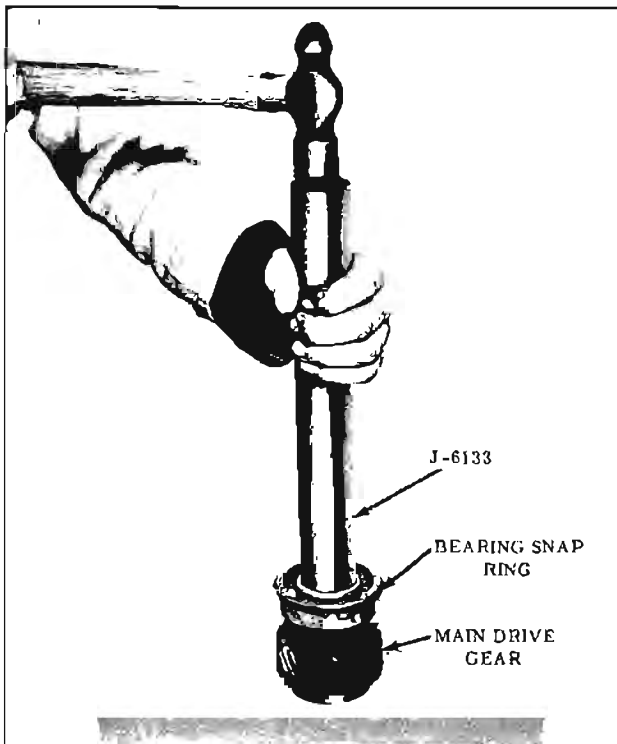

Fig. 11-228 Main Drive Gear Bearing Installation
5. Using tool J-6133 install the main drive gear bearing on the main drive gear shaft with the snap ring in the outer race of the bearing toward the front of the shaft. (Fig. 11-228)